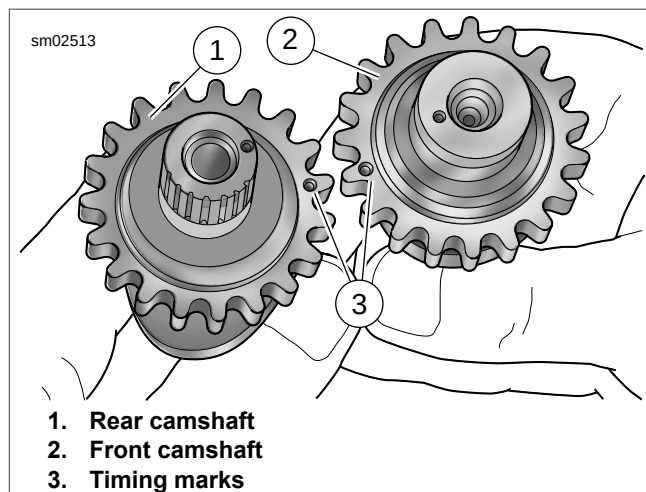

Figure 3-97. Camshaft Timing Marks
- See Figure 3-97. Align timing marks on teeth of secondary cam sprockets.